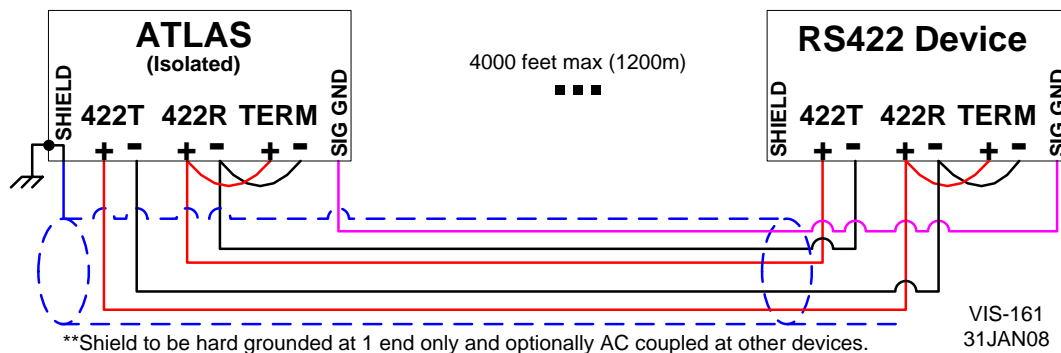

Figure 4-22. Wiring Example—RS-422 Interface to the SmartCore CPU A5200 Board
- **RS-422.** Refer to Figure 4-22 for RS-422 wiring. The transmit data pairs (422T+ and 422T-), receive data pairs (422R+ and 422R-), and signal ground (SIG GND) must be properly connected as shown. In addition, the shield (SHLD) should be connected in at least one location. Only the receiver at each end of the network should be terminated with a resistor.